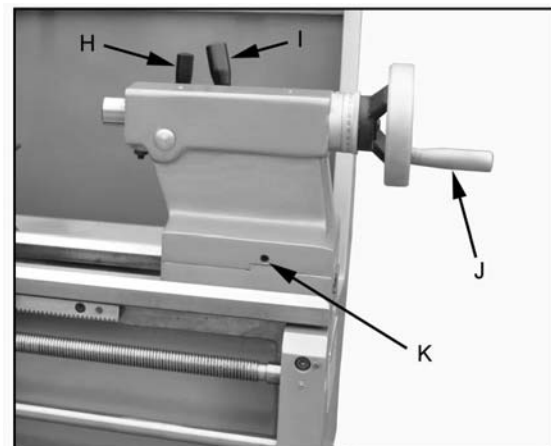

Figure 15
21. **Tailstock Quill Clamping Lever (H, Fig. 15)** – Lift up to lock the spindle. Push down to unlock.
22. **Tailstock Clamping Lever (I, Fig. 15)** – Lift up lever to lock. Push down lever to unlock.
23. **Tailstock Quill Traverse Handwheel (J, Fig. 15)** – Rotate clockwise to advance the quill. Rotate counter-clockwise to retract the quill.
24. **Tailstock Off-Set Adjustment (K, Fig. 15)** – Three set screws located on the tailstock base are used to off-set the tailstock for cutting tapers. Loosen lock screw on tailstock end. Loosen one side set screw (K, Fig. 15) while tightening the other until the amount of off-set is indicated on scale. Tighten lock screw.